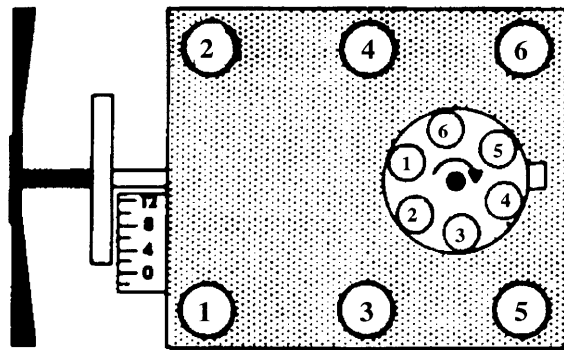

Figure 2—472-500 c.i.d. Cadillac
- **FIRING ORDER AND CYLINDER NUMBERING**—For cylinder numbering and firing order, see Figure 2.